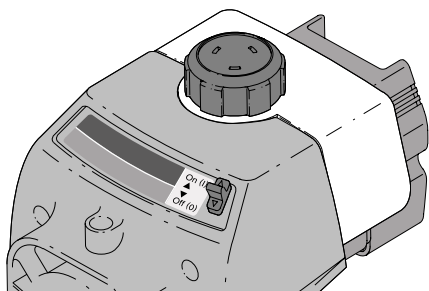

Fig. 6
2. Put the On/Off Stop Control in the **ON** position (Fig. 6).
2. Put the On/Off Stop Control in the **OFF** position (Fig. 6).